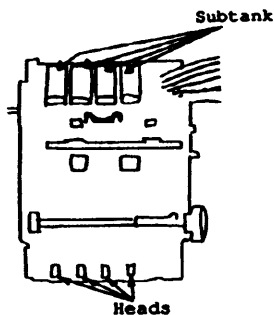
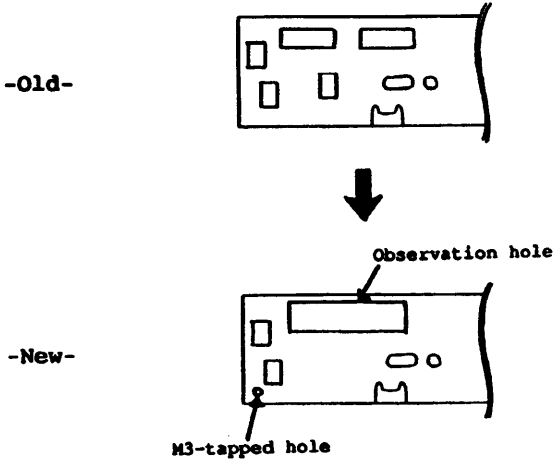

Figure 2: Bottom view of carriage
Figure 3: Enlarged view A (figure 1)
1. To prevent electrostatic discharge in the BJC-880, a M3-tapped hole has been added (figure 3).
2. To easily confirm the level of ink in the subtank (figure 2) in the carriage unit, the shape of the observation hole has been changed as shown in figure 3.